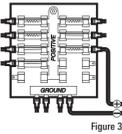

Figure 3
- 1a. If a fuse terminal is available, use crimp-on type electrical connectors (not included) that match the terminal on the fuse panel. Attach the black wire to ground (-), and the red wire to positive (+) 12 VDC power (Figure 3). Install a 3 amp fuse (not included) for protection of the unit. Humminbird® is not responsible for over-voltage or over-current failures.